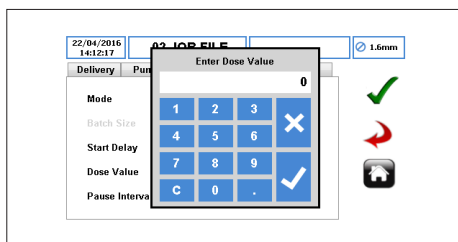

Figure 33 Select the Dose Value
- ▶ Select the dose value. A keypad will appear as per *Figure 33*.